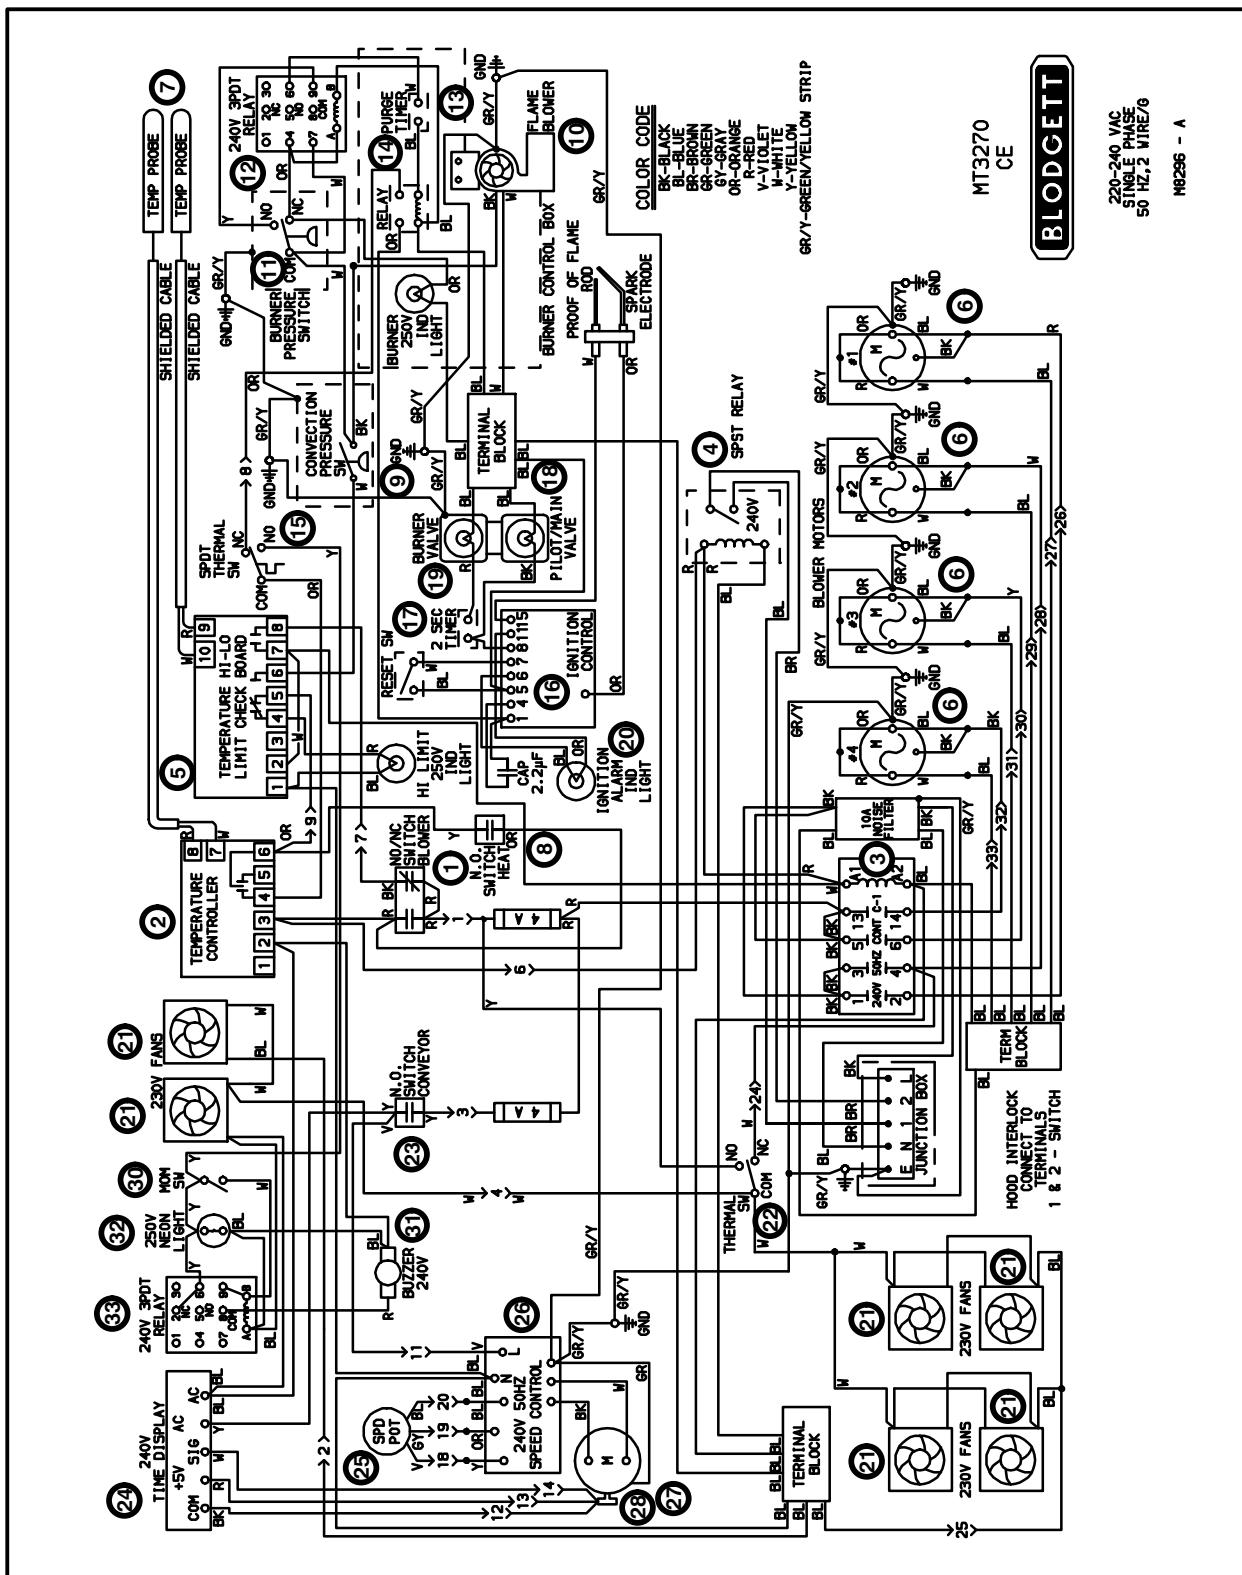

FIGURE 12
*NOTE: Refer to FIGURE 12 page 3–27 for component locations.*